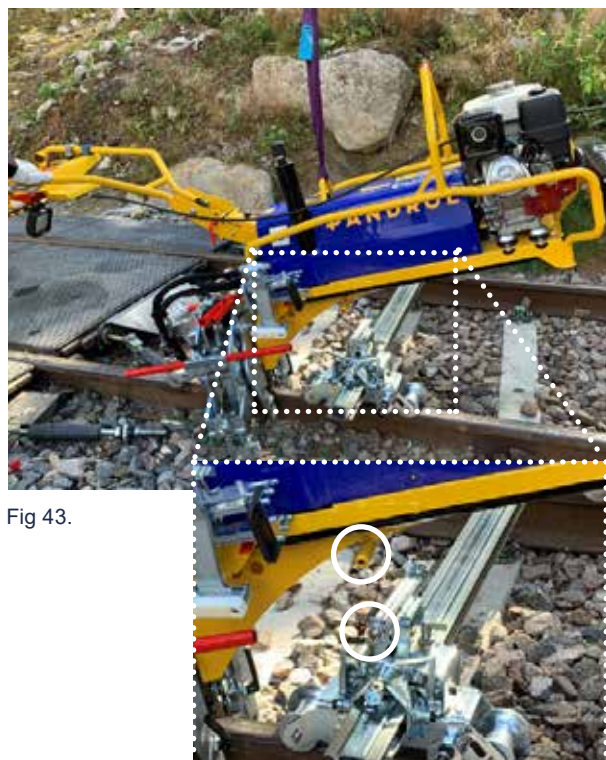

Fig 43.
4. Open the handles on the slide carriage before lifting the power pack in position, Fig 43.
5. Lift the power pack in the lifting eye according to Fig 43. The unit can also be lifted manually.
6. Place the powerpack in position above the slider carriage, Fig 43.